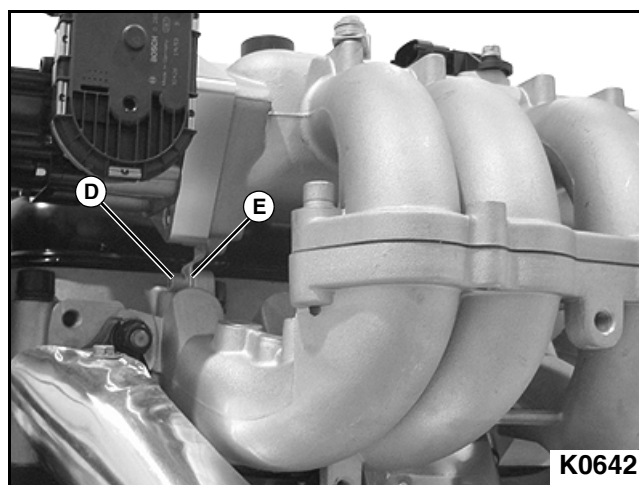

Figure 3-71
3. Install mounting bolt (D) securing upper intake manifold to bracket (E). Do not tighten bolt at this time. **See Figure 3-71.**